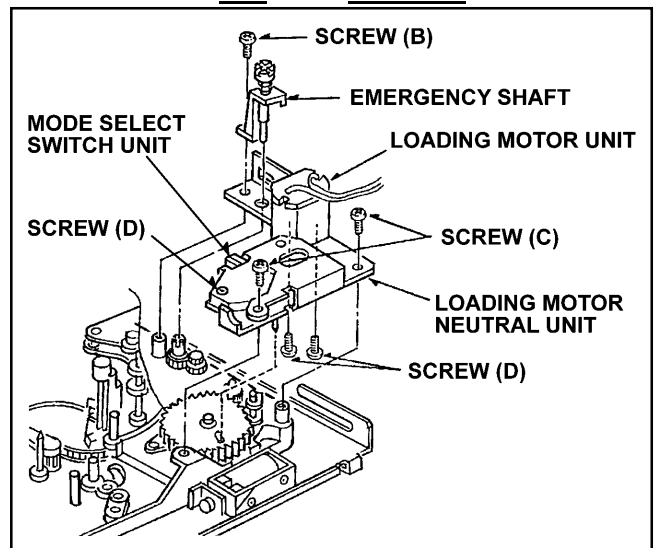

Figure 5-13-1
2. Remove the Pinch Solenoid Unit. (Refer to item 5-10).
3. Unscrew the screw (B), and remove the Emergency Shaft as shown in Figure 5-13-1.
4. Unscrew the 2 screws (C) and remove the Loading Motor Neutral Unit as shown in Figure 5-13-1.
5. Unscrew the 2 screws (D) and remove the Loading Motor Unit as shown in Figure 5-13-1.